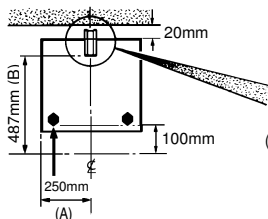

Fig.4a.
2. Mark off 250mm from the left hand side of the appliance as shown in dimension 'A', Fig 4a. This is the centre line of the fixing bracket.
3. Draw a line 100mm from the front edge of the feet (see Fig.3a) and remove appliance from its position. Mark off dimension 'B' (see Fig.4a) back from this line on the centre line of the bracket to locate the front edge of the lower bracket. Fix lower bracket (with two fixing holes) to the floor then measure the height from floor level to engagement edge on back of appliance, dimension 'C' of Fig. 4b.